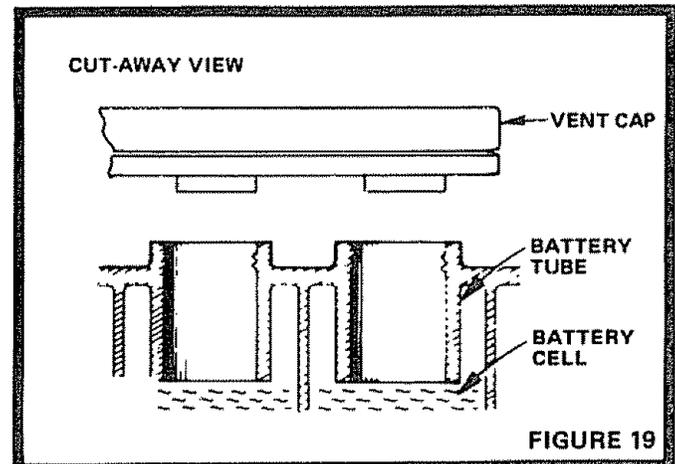

FIGURE 19
- Electrolyte solution level in each Battery Cell should be even with bottoms of tubes in cells (Fig. 19). Add distilled water if necessary. NOTE: DO NOT OVERFILL.